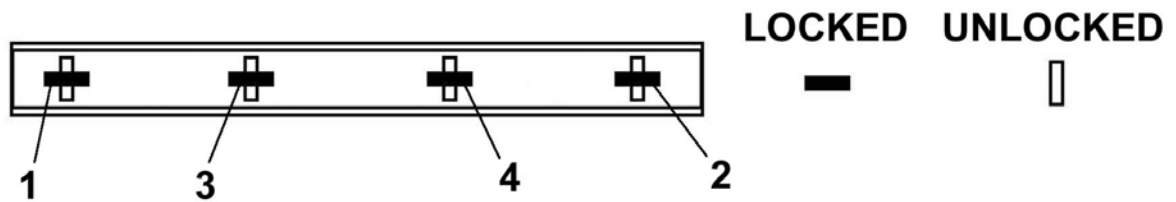

Figure 6-3 Draw Bolt Loosening Sequence
2. Using appropriate tool or wrench, loosen nuts on all draw bolts on right side of screen frame in the sequence shown in Figure 6-3. Loosen each nut until fully disengaged from upper threads of draw bolt, with nut between the threaded areas of the bolt.